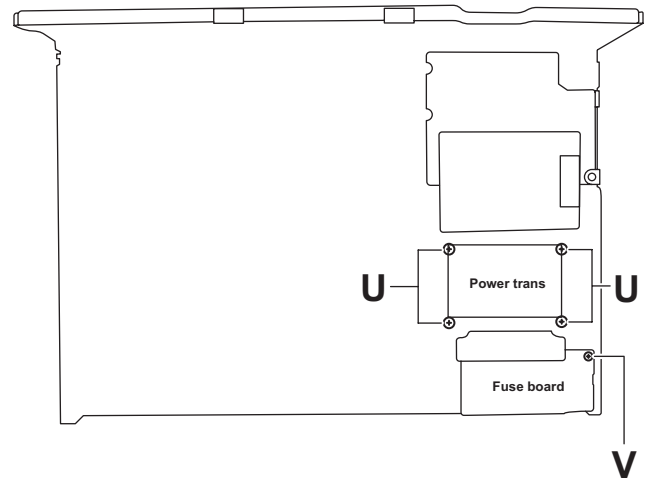

Fig.11
3.1.6 Removing the power transformer and regulator board (See Fig. 11 and 12)